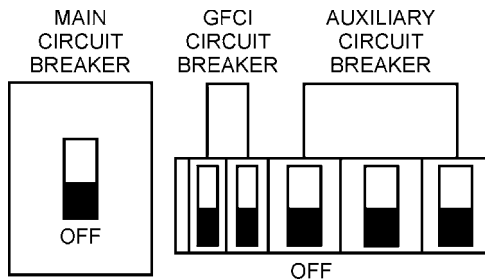

Figure 26. Main, Aux. and GFCI Circuit Breakers (OFF)
1. Place the **main, G.F.C.I., and aux.** circuit breakers (Figure 26) in the **OFF** position prior to starting the engine.